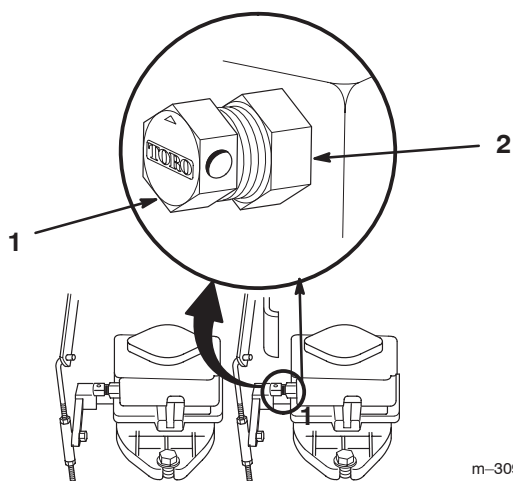

Figure 34
1. Loosen large jam nut several turns (Fig. 34).
2. Gently close by-pass valve (Fig. 34).
3. Open by-pass valve 1/2 turn (Fig. 34).
4. Tighten jam nut to lock the adjustment (Fig. 34).